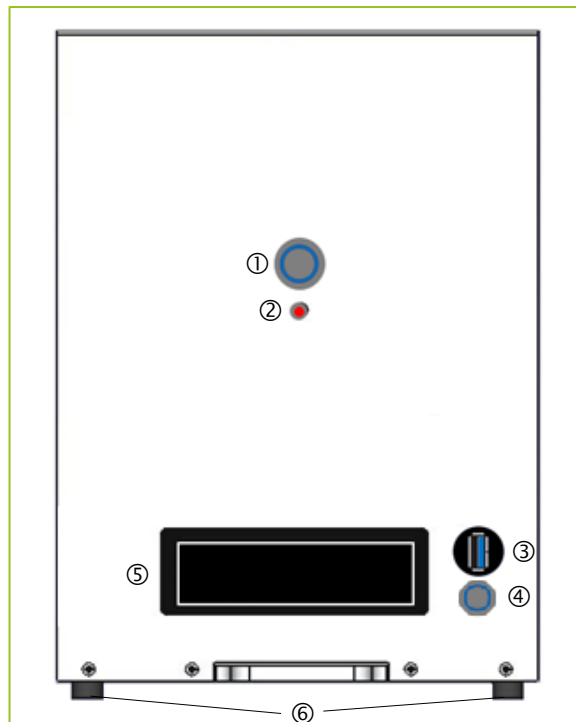
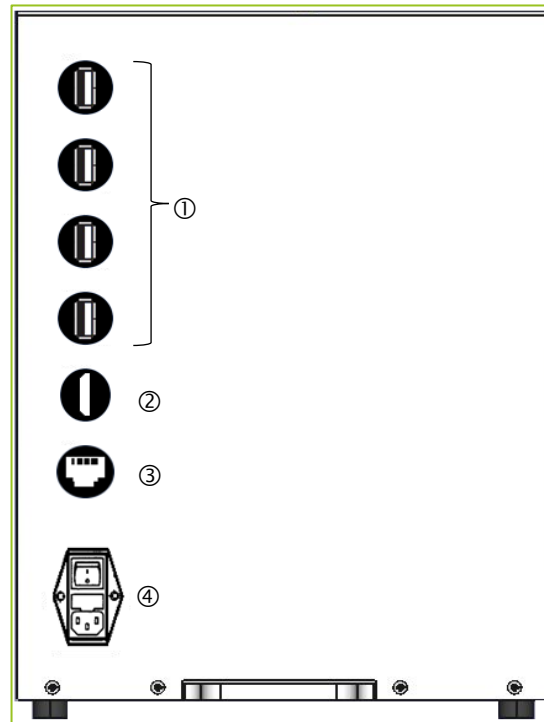

Figure 3 Front panel appearance
Figure 4 Back panel appearance
- ① USB 2.0 ports allow the following accessories connected to the device:
- ② HDMI port for monitor connection. The system is calibrated for a 24" 2MP (1920x1200) monitor.
- ③ RJ45 Ethernet networking connection port.
- ④ Power cable socket with I/O ON/OFF switch.
Before connecting the power cord, make sure the main switch (④ Figure 4), is on "O" (OFF).
Connect the plug of the power cord to the AC socket (④ Figure 4).
The keyboard, mouse and joystick are connected to the USB 2.0 ports (① Figure 4) while the monitor is connected to the HDMI port (② Figure 4).
The NED-MICRO has two power switches. The general switch (④ Figure 4) must be in the position "I". The button (① Figure 3) allows the device to pause (standby), the system is powered and the blue LED (② Figure 3) is displayed.
When the power button ① Figure 3 is on (light blue) and the LED ② Figure 3 (blue light) is displayed, you can proceed to use the software controls to manage the NED-MICRO.